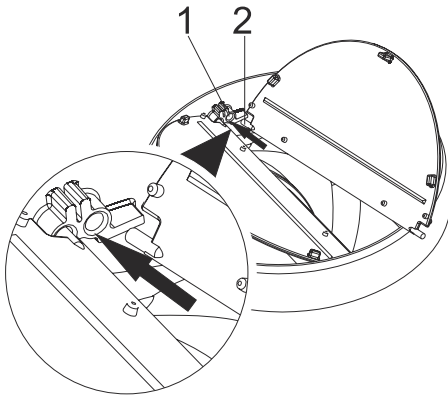

Fig. 11
- Insert the plastic pin (area no.2) on the pin socket on the motor exhaust (area no.1). Fig. 11. Then bend the flap lightly to insert the other pin on the flap and insert the other pin to its socket (Fig. 11).